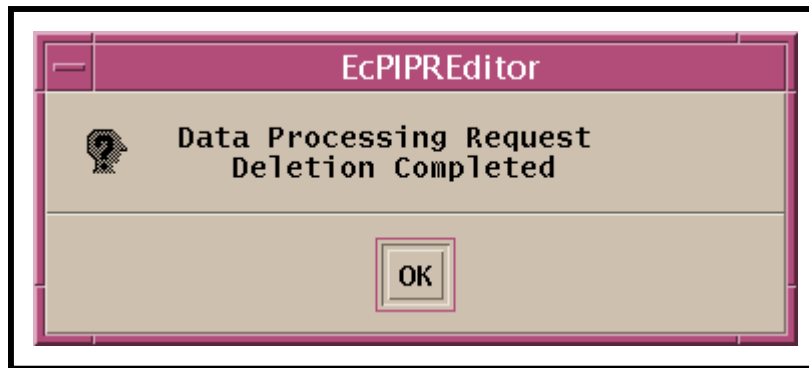

Figure 34. DPR Deletion Completed Dialogue Box
- A deletion dialogue box (similar to Figure 34) is displayed.